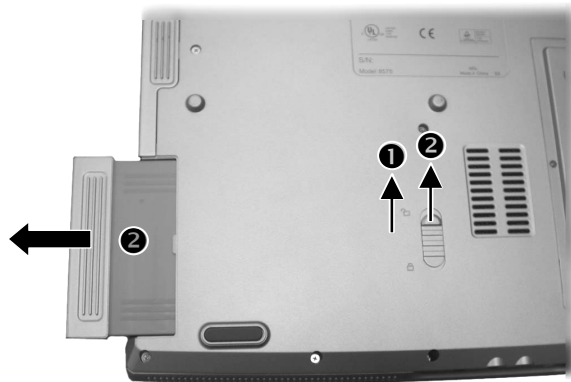

Figure 2-1 Remove the battery pack
2. Slide the release lever to the “unlock” () position (**1**), then sliding and holding the release lever outwards while pull the battery pack out of the compartment (**2**). (Figure 2-1)